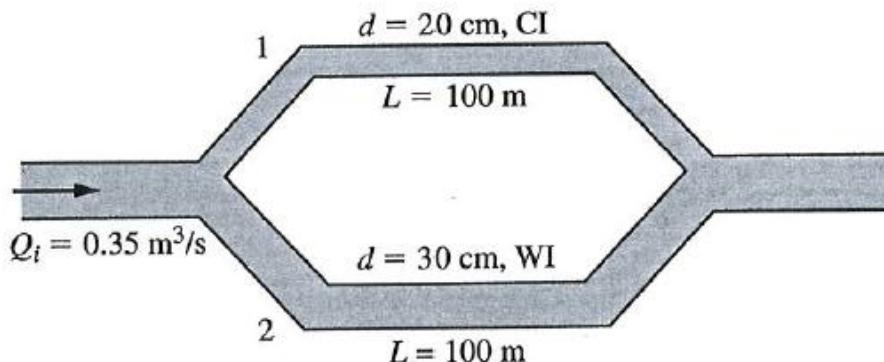

Figure 4
- (b) Two pipes are laid in parallel as shown in **Figure 4**. All pipe characteristics and dimensions are also shown in **Figure 4**. If the total discharge is $0.35\text{m}^3/\text{s}$ and the water temperature is 25°C , determine be the discharge in each line.